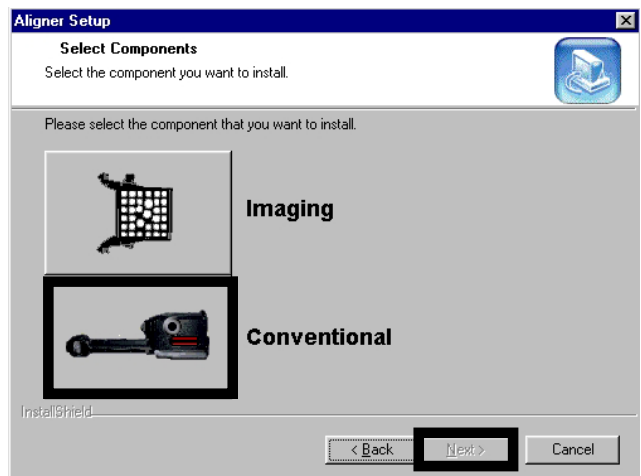

Figure 3-5
8. The alignment CD is not sensor or brand specific, the operator must choose which type of alignment software is to be loaded. Click on the icon button to choose the alignment software that you would like to install and click **<NEXT>** to proceed. (Figure 3-5)